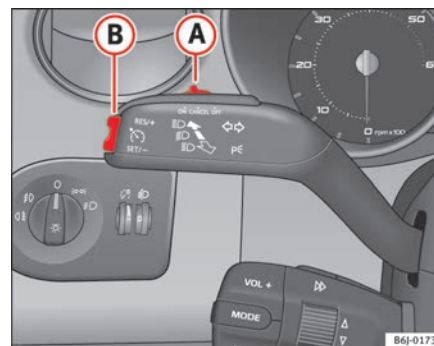

Fig. 107 Indicator and main beam headlight lever: switch and rocker switch for the cruise control
- Press the upper part **RES** of the rocker switch ⇒ fig. 107 **B** to increase the speed. The vehicle will continue to accelerate as long as you keep the rocker switch pressed. When you release the switch, the new speed is stored.
Control of the set speed is switched off if you reduce speed by depressing the brake pedal. Reactivate the control by pressing once on the upper part of the rocker switch **RES+** ⇒ page 147, fig. 107 **B**.